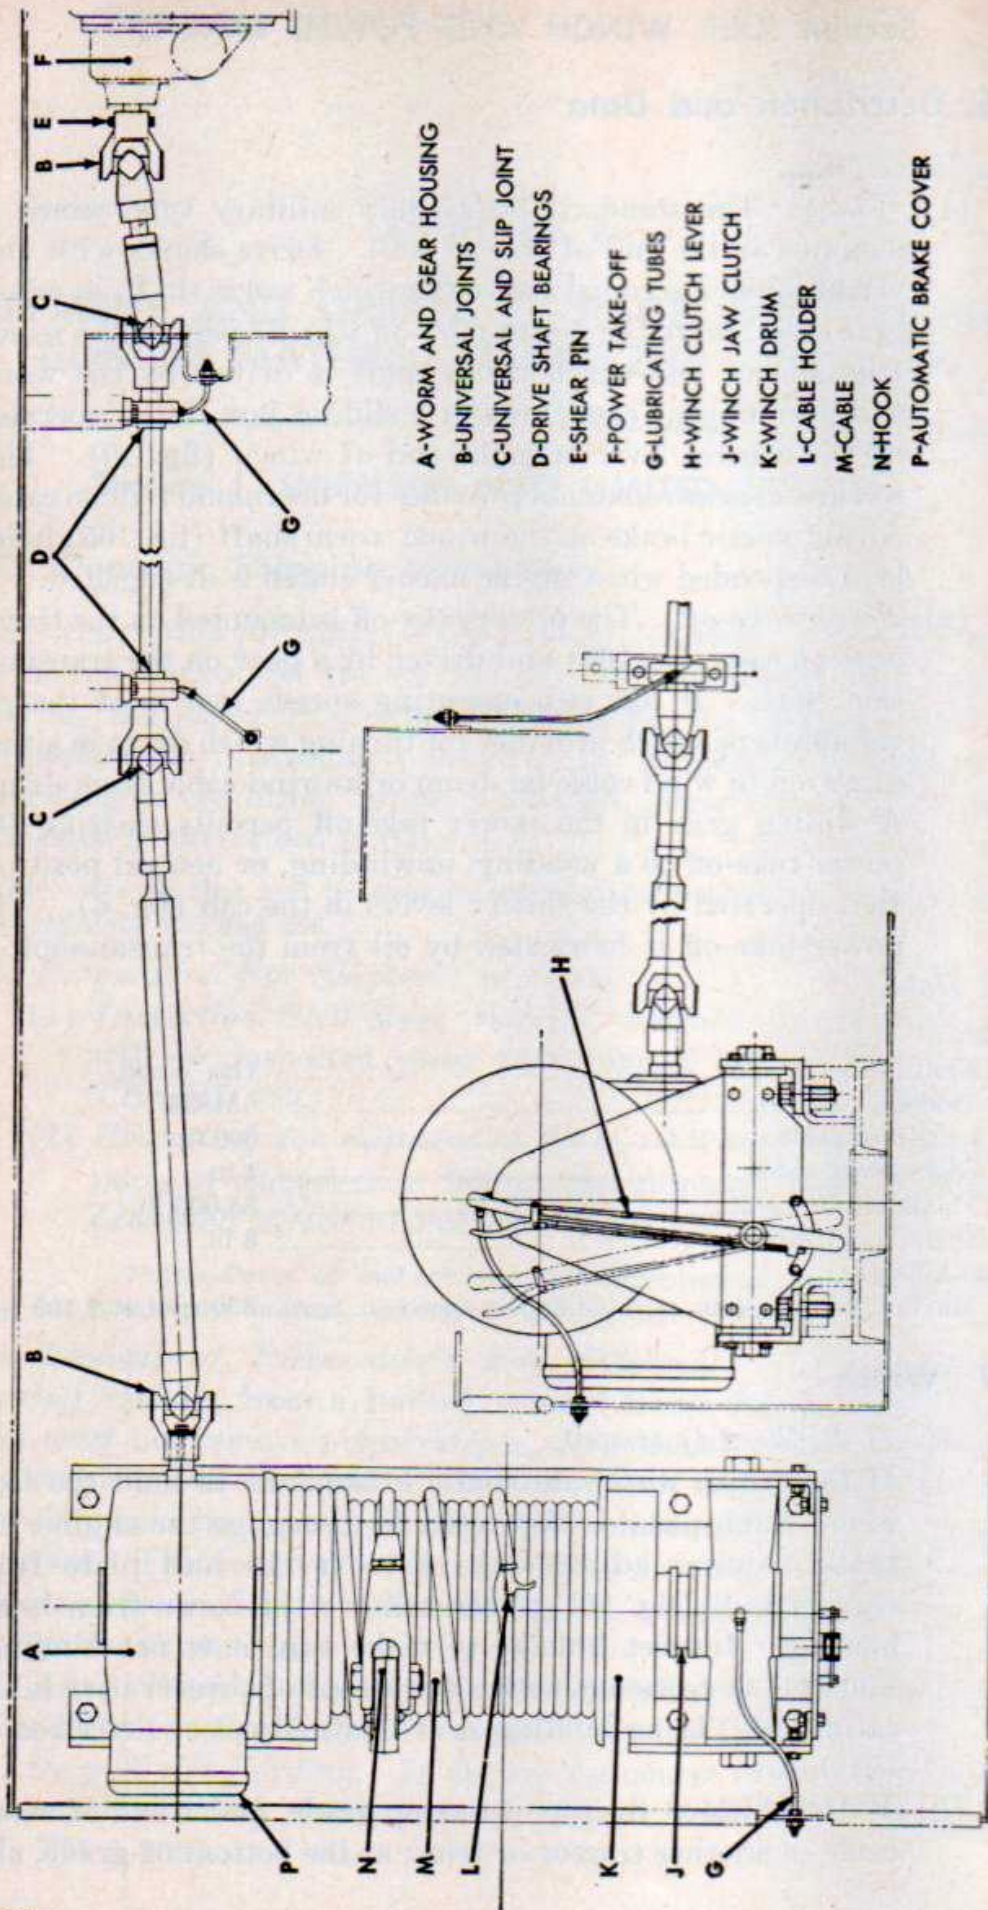
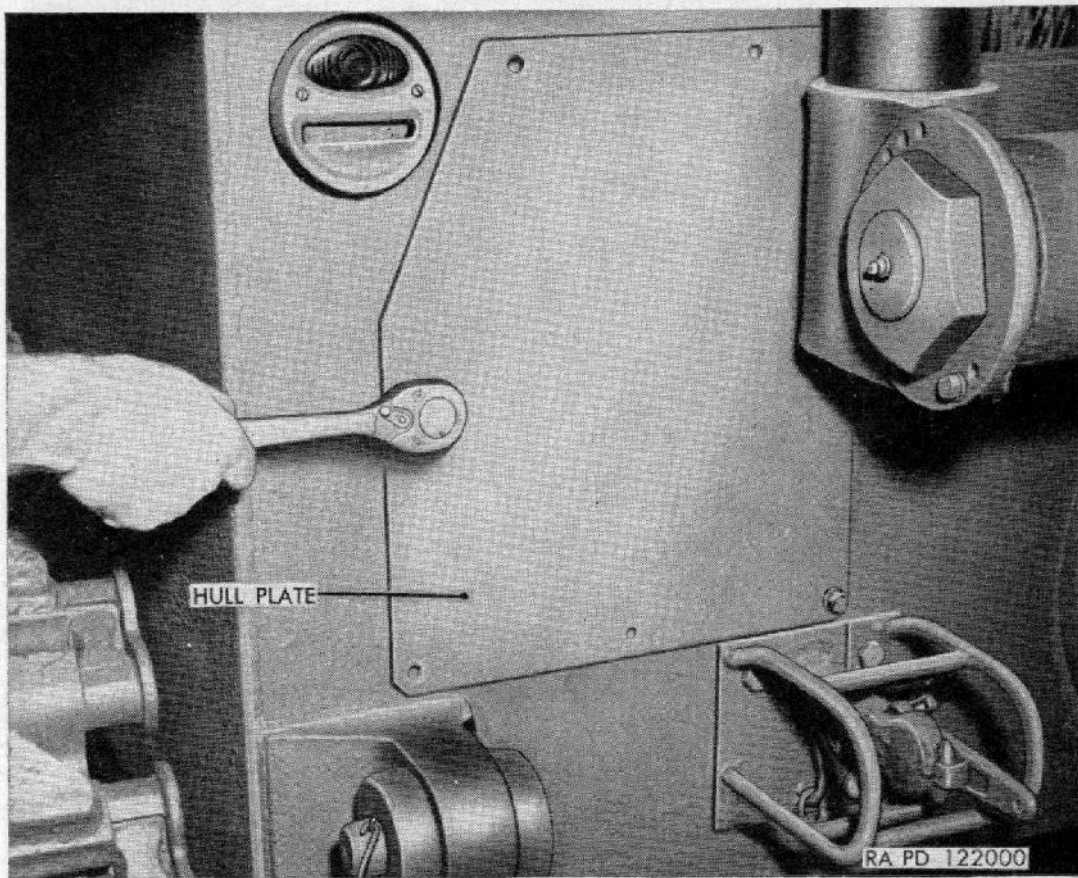
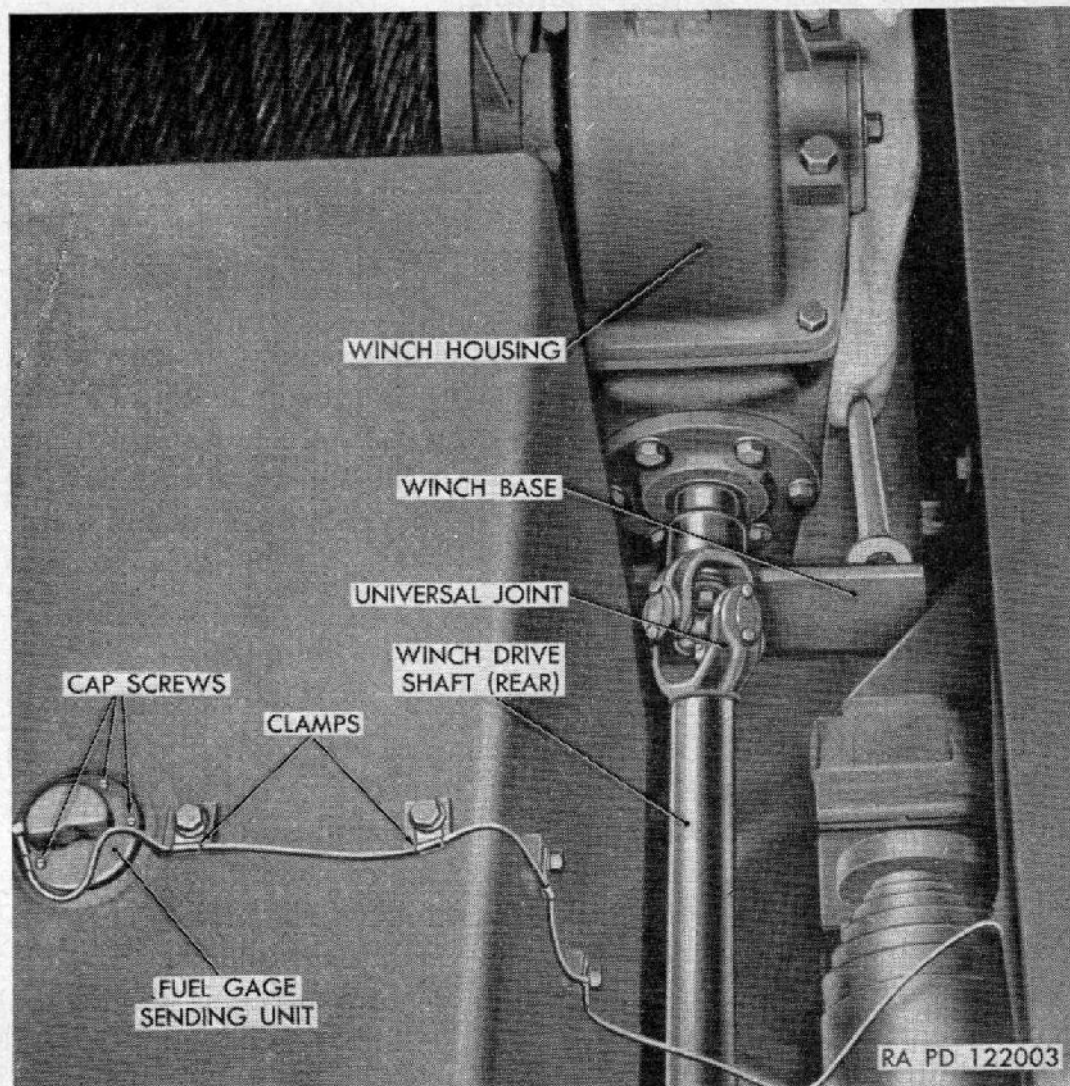
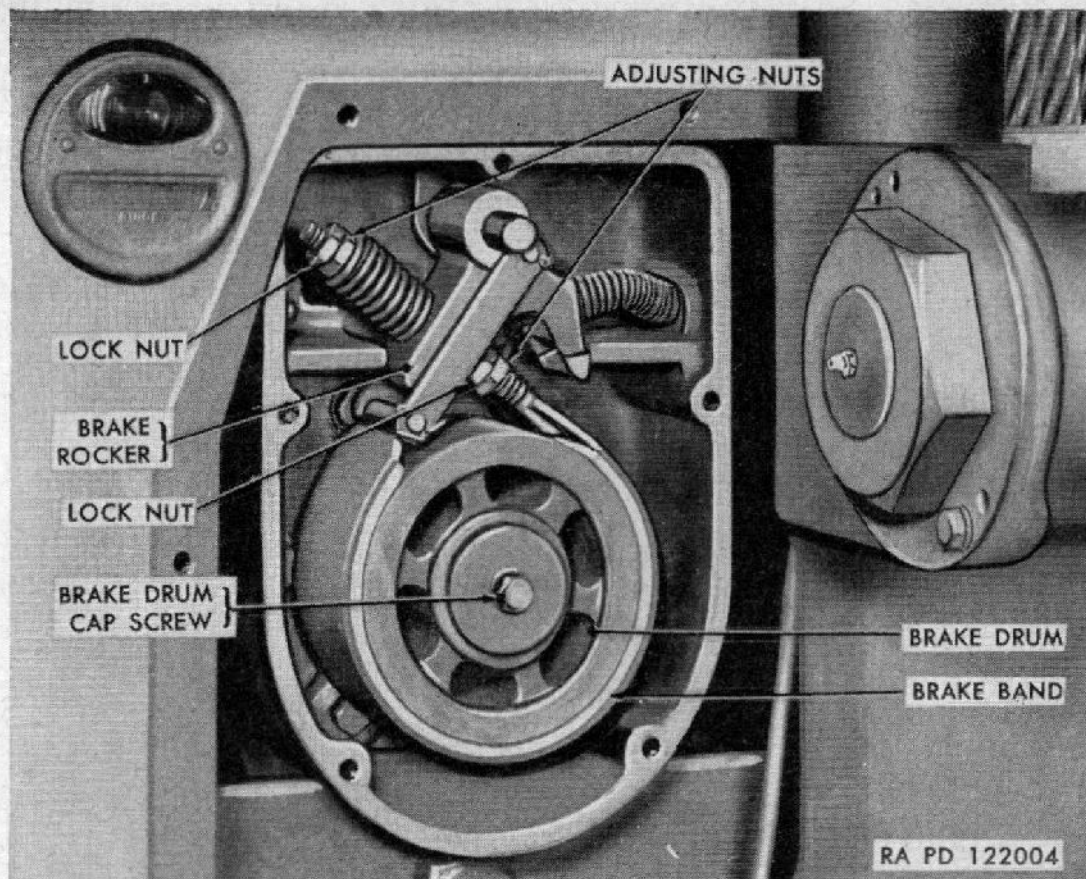

Figure 160. Winch and drive shaft assemblies.
Figure 161. Winch hull plate removal.
Figure 164. Installing winch.
Figure 165. Winch brake installed.
- (1) *Winch.* The standard heavy-duty military type winch is mounted in the end of tractor hull. Drive shafts with universal joints are connected to the winch worm shaft, in winch gear case, and to the power take-off which operates the winch (fig. 160). The winch drum shaft is driven by the worm and gear in gear case through a sliding jaw clutch operated by the control lever at right end of winch (fig. 10). This worm and gear reduction provides for maximum pull on cable. An automatic brake on the winch worm shaft (fig. 165) holds load suspended when engine master clutch is disengaged.
- (1) If the winch worm automatic brake fails to hold the load when clutch pedal is depressed to disengage the engine, the brake requires adjustment. Remove the hull plate from rear of hull (fig. 161); then remove the cover from brake housing. Inspect linkage to make sure it is not binding; lubricate if necessary with a few drops of preservative lubricating oil. If no binding is evident, adjust as described in (2) below.
- (2) With vehicle at the top of a steep grade, fasten end of winch cable to another tractor or truck at the bottom of grade, and
start pulling it up the grade. After a short haul, depress clutch pedal. The winch will stop and the vehicle being pulled up the grade should not roll backward. If it does, loosen lock nut and tighten the brake band upper adjusting nut one-half turn (fig. 165). Push adjustment spacer, located above the lower adjusting nut, into brake rocker as far as it will go. Back off the lower nuts until the space between the nuts and spacer is one-eighth of an inch. Tighten lock nuts and test winch brake for holding as before. If brake does not hold, repeat the above adjustment by one-half turn on both upper and lower adjusting nuts.
(fig. 164). Place chains or rope sling on winch, and raise winch slowly with hoist until front end of rear drive shaft slips out of sleeve; then raise winch up and out of tractor. Remove cap screw and washer from front end of winch worm shaft after winch is removed (fig. 160) and slide universal off worm shaft.
- (1) *Install winch in tractor.* Slide the rear universal joint yoke into front end of winch worm shaft and install large flat washer, lock washer, and retaining cap screw in end of shaft (fig. 160). Lower winch into place; at same time, guide
a. Removal. Remove hull plate (fig. 161) from rear of tractor and brake housing cover plate from winch. Remove both nuts, spring alining washer, and spring from threaded end of band (fig. 165). Pull cotter pins from pins in rocker and end of band, and remove pins and links. Remove the rocker and spacer from case. Remove lower adjusting and lock nut from band. Remove band assembly from the winch brake housing.
a. Removal. Remove hull plate (fig. 161) from rear of tractor and brake housing cover plate from winch. Remove the top adjusting nut and lock nut from threaded end of brake band, and remove spring and alining washer (fig. 165). This will loosen the brake band from around the drum. To remove the drum, remove the brake drum cap screw (fig. 165) and pull brake drum from the shaft. If the drum is tight, use a puller to remove the drum. The brake drum is held on the shaft by a key.